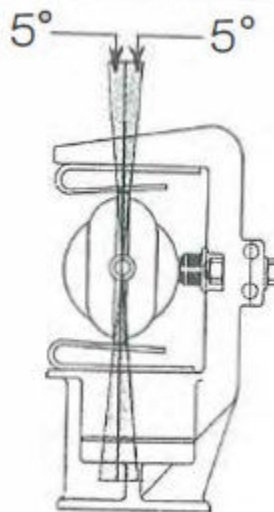

Figure 12: Blade Tips Centered in Jaw Contact Fingers
- 2.1.3. The silver of the blade tips should be centered on the silver of the jaw contacts; Misalignment can be corrected by tilting the jaws toward or away from the center stack, using the jaw jack screws. See **Figure 12**.